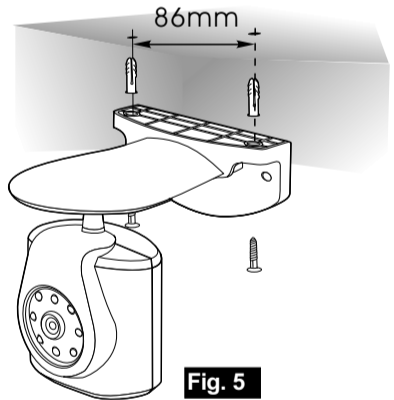

Fig. 5
2. Fix the camera to the wall or ceiling using the masonry plugs and fixing screws supplied. See Fig. 3 and Fig. 5.